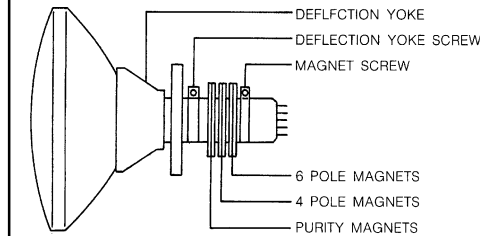

Fig. 5-1
- Tighten the screw for the magnet. Refer to the adjusted CRT for the position. (Refer to Fig. 5-1). If the deflection yoke and magnet are in one body, untighten the screw for the body.